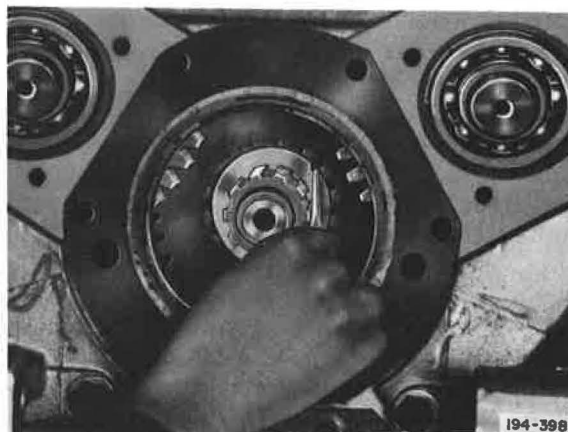

Figure 5-125. Disengaging Fourth Speed Gear Thrust Washer for Removal
5. Using a small tool, rotate fourth speed gear thrust washer one spline tooth and slide washer off of mainshaft. See Figures 5-125 and 5-126.